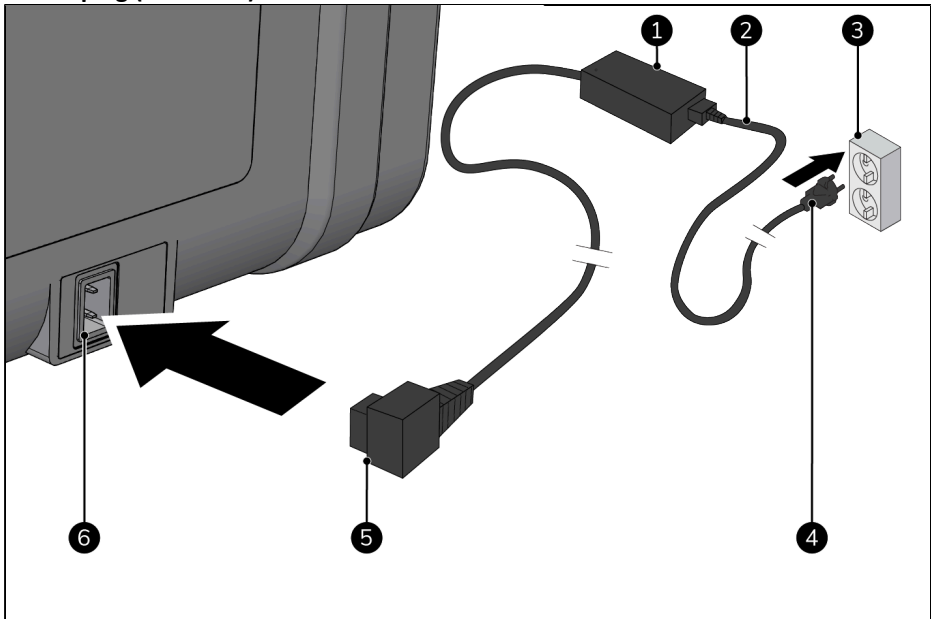

Figure 16.
3. Place the AC cable (Figure 16, pos. 2) into of the AC/DC adapter (Figure 16, pos. 1).
4. Place the AC/DC adapter plug (Figure 16, pos. 5) into the power supply of the device (Figure 16, pos. 6).
5. Place the power plug (Figure 16, pos. 4) into an easily accessible wall socket (Figure 16, pos. 3).